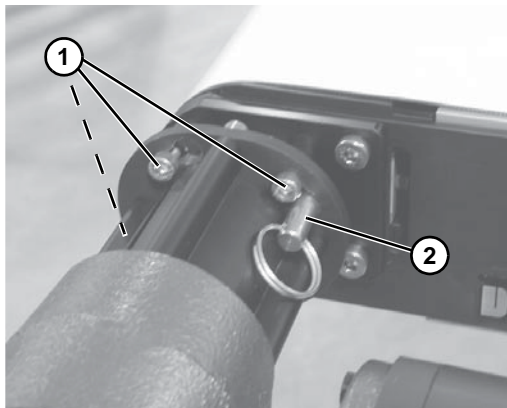

Figure 9
- Tighten screws (**Figure 9, item 1**) to 146 in-lbs (16.5 N-m) and install anti rotation pin (**Figure 9, item 2**).